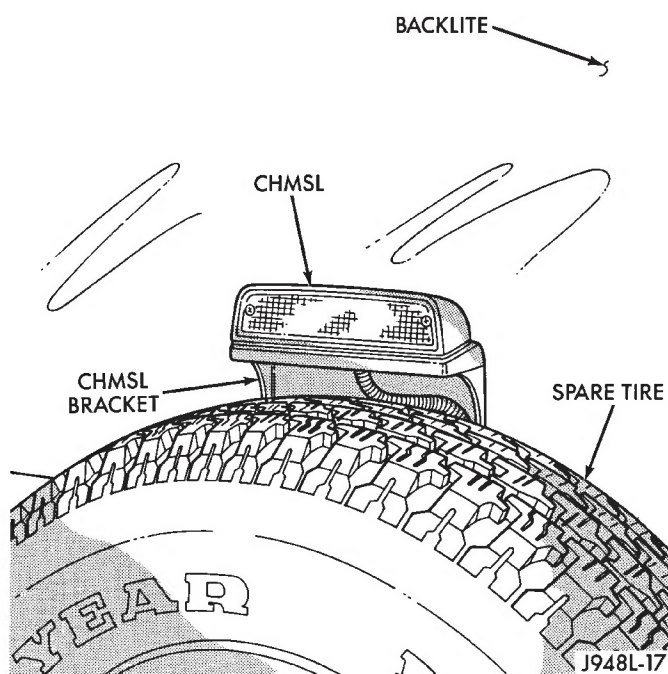

Fig. 17 Removing CHMSL Access Door
- (1) Remove the CHMSL lens (Fig. 17).